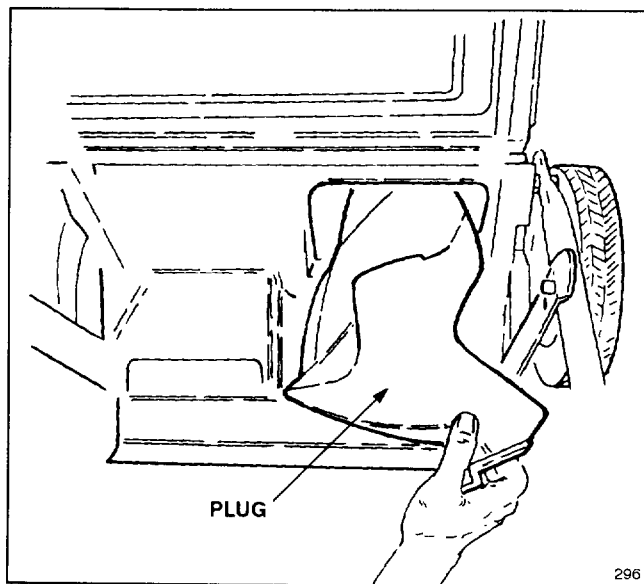

Figure 35
2. Mulching Plug Kit, Model No. 59181—Includes mulching plug (Fig. 35), mulching blade, blade stiffener and anti-scalp cup. Converts rear bagging mower into a mulching mower.